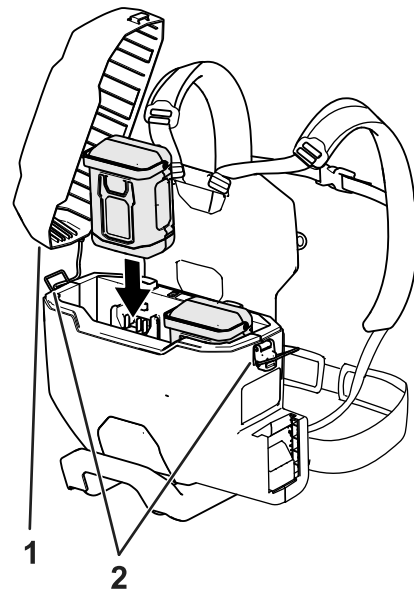

**Figure 11**
2. Ensure that the vent on the bottom of the backpack is clear of any dust and debris (Figure 11).